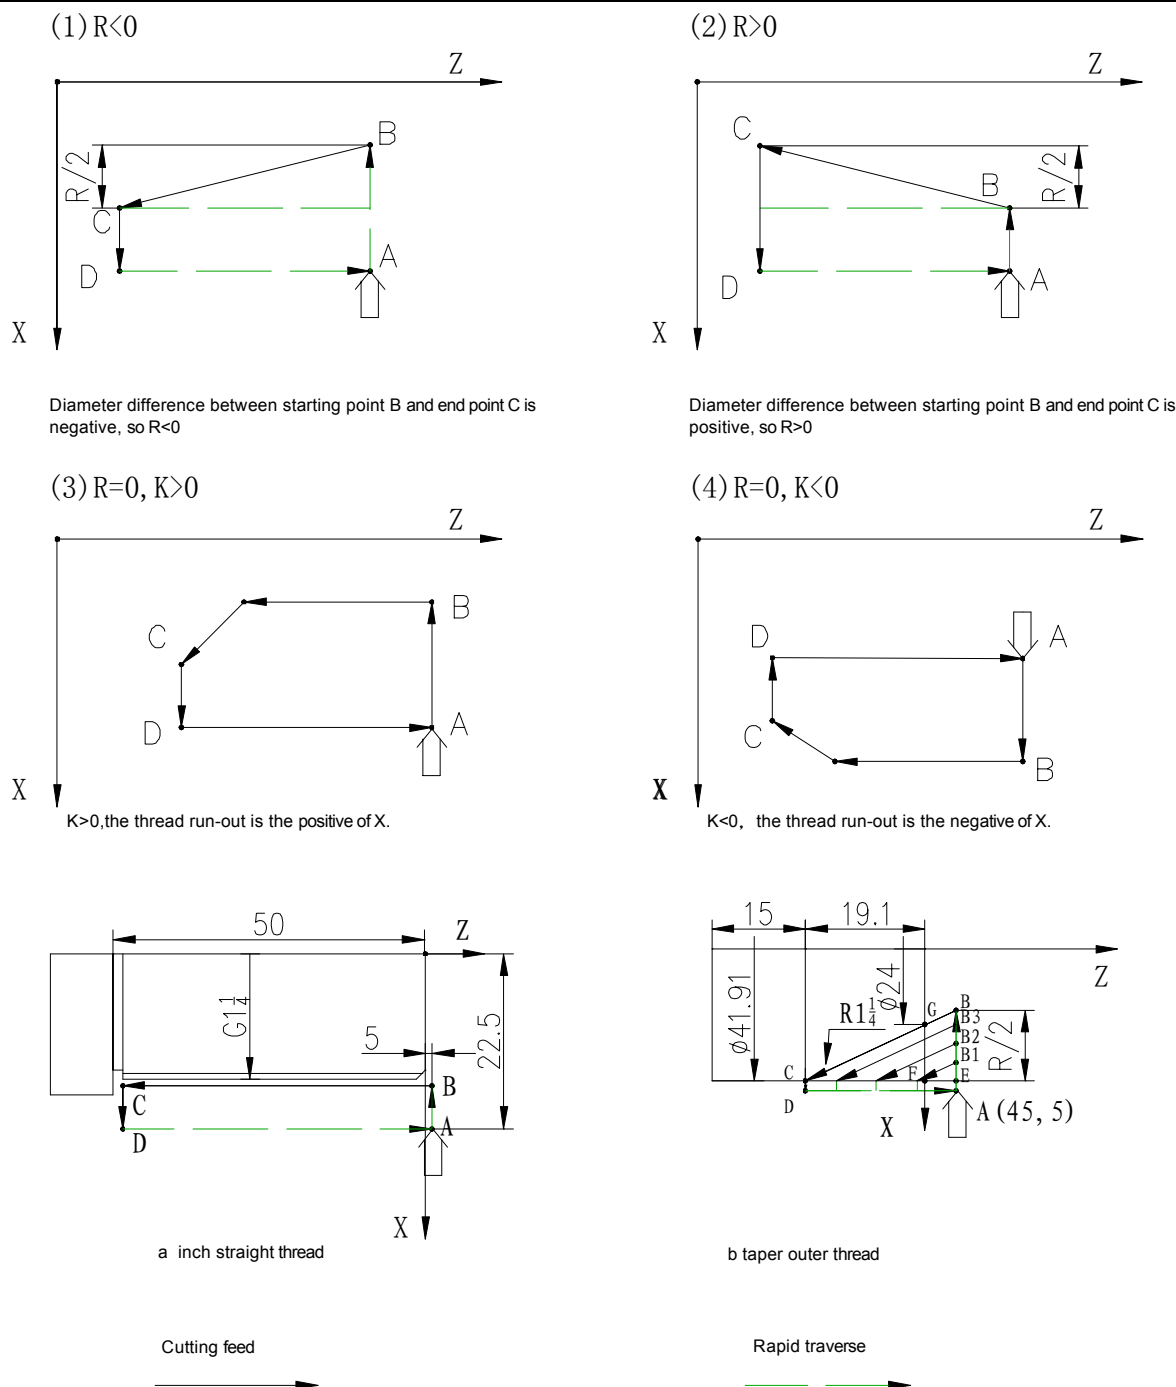

Fig. 17 G92 thread cutting cycle
**Example 1:** Metric straight thread as Fig. 17 a. ( $G1 \frac{1}{4}:11$  teeth,  $D=41.910$ ,  $D2=40.431$ ,  $D1=38.952$ )
**Example 2:** Outer taper thread as Fig. 17 b ( $R1\frac{1}{4}$  : D=41.910, D2=40.431, D1=28.952, P=2.309, the valid length of thread is 19.1)